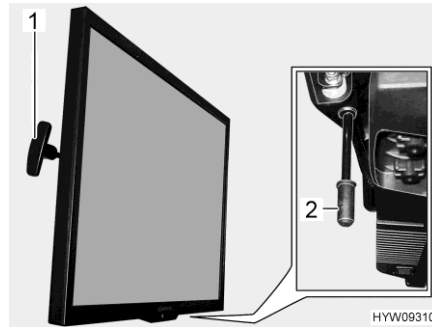

Fig. 69 Flat screen
- Pull and hold handle (Fig. 69,1). The flat screen is unlocked.
- Pull down the handle (Fig. 69,2) and hold it there. The flat screen is unlocked.